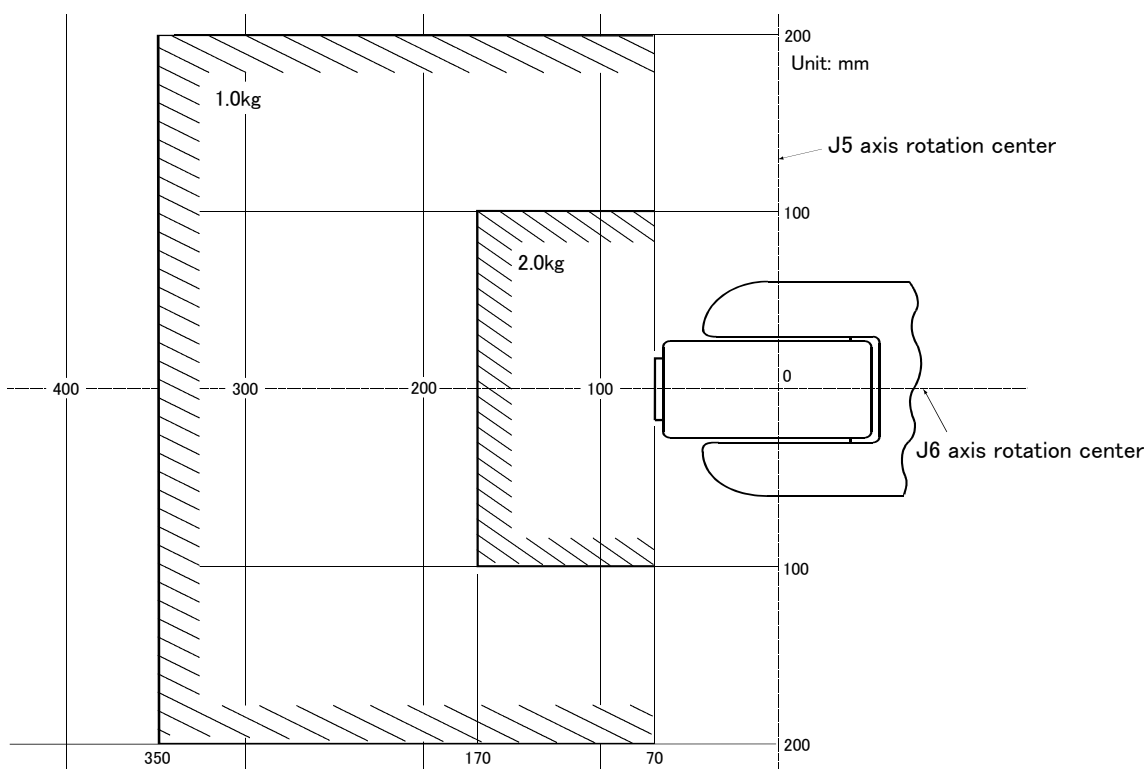

Fig.2-1 : Position of center of gravity for loads (for loads with comparatively small volume)
- (1) The tooling should have the value less or equal than the smaller of the tolerable inertia and the tolerable moment found in Page 8, "2.1.1 Basic specifications".
- (2) Fig. 2-1 shows the distribution dimensions for the center of gravity in the case where the volume of the load is relatively small. Use this figure as a reference when designing the tooling.
- (3) Even if the load is force, not the mass, design the tooling so that moment does not exceed the allowable moment. Refer to Page 8, "2.1 Standard specifications" for details of allowable moment value.